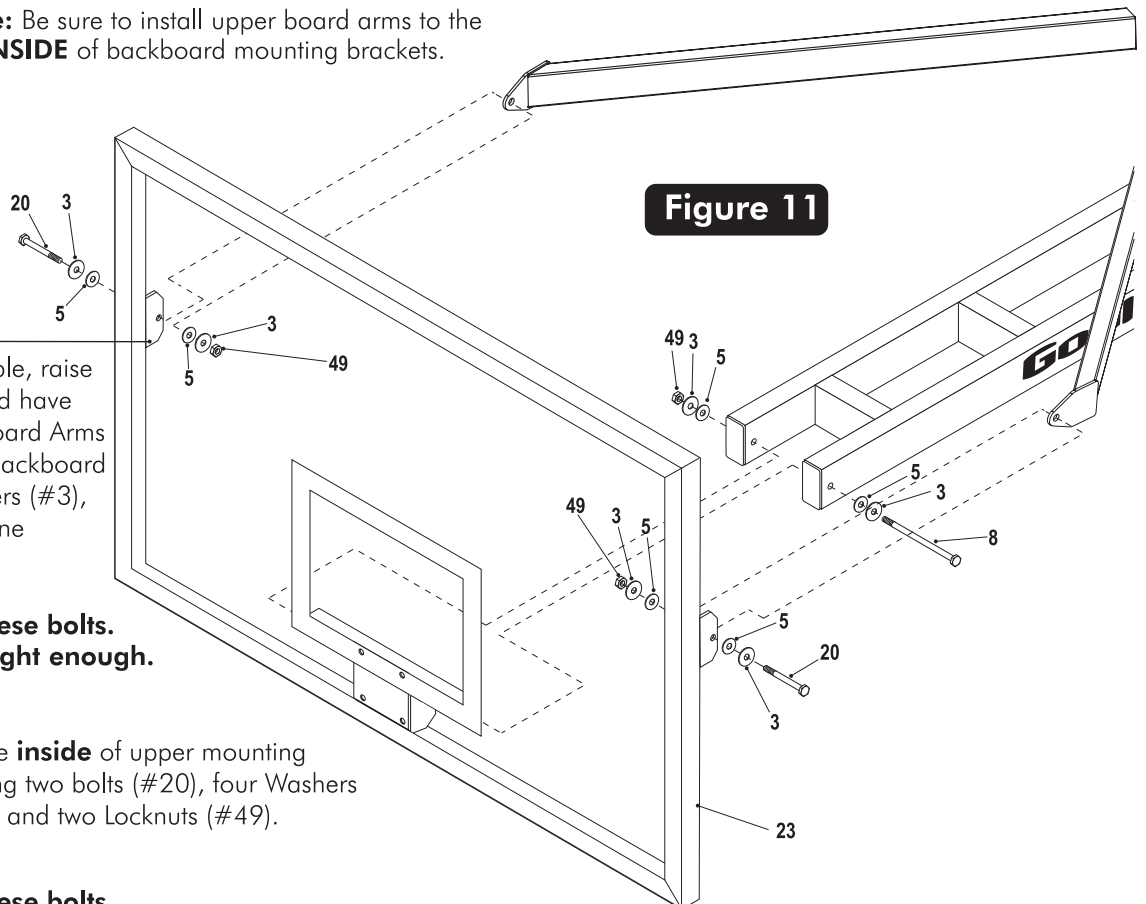

Figure 11
16. With at least four capable people, raise the backboard assembly up and have the fifth person attach Lower Board Arms to the Rim Support (# 21) on backboard using one bolt (#8), two washers (#3), two Plastic washers (#5) and one locknut (#49). See Figure 11.
17. Attach Upper Board Arms to the **inside** of upper mounting brackets on the backboard using two bolts (#20), four Washers (#3), four Plastic Washers (#5) and two Locknuts (#49). See Figure 11 and Detail A2.